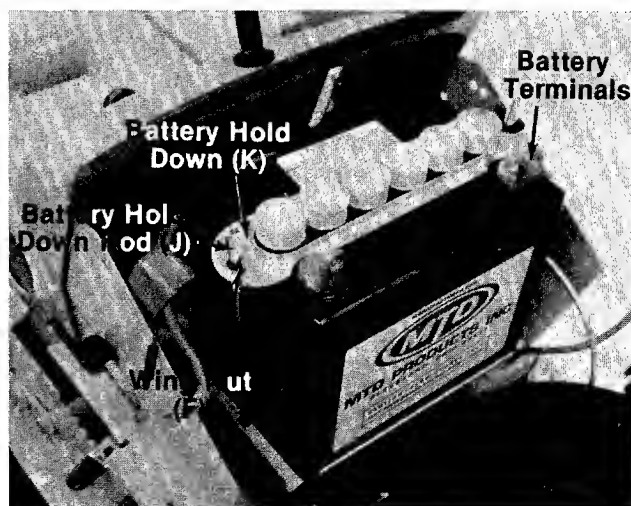

FIGURE 7.
- Place the battery with the terminals to the FRONT in the battery case. See figure 7.
- Hook both hold down rods (J) under the battery case. Place the hold down (K) over the battery caps. Secure with wing nuts (F). See figure 7.